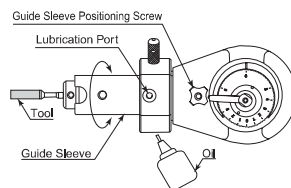

Fig. 8
- Loosen the guide sleeve positioning screw to make the guide sleeve smoothly rotate (Fig.8). This can allow the tool to fit the work surface with ease.
- Fasten the guide sleeve positioning screw to fix tool (Fig.8). This completes re-orientation of the tool.
Lubricate the attachment at least once a day from the lubrication port as shown (Fig. 8). In case the supplied oil depletes and NAKANISHI Oil cannot be found, use the turbine oil class 1 ISO VG32.